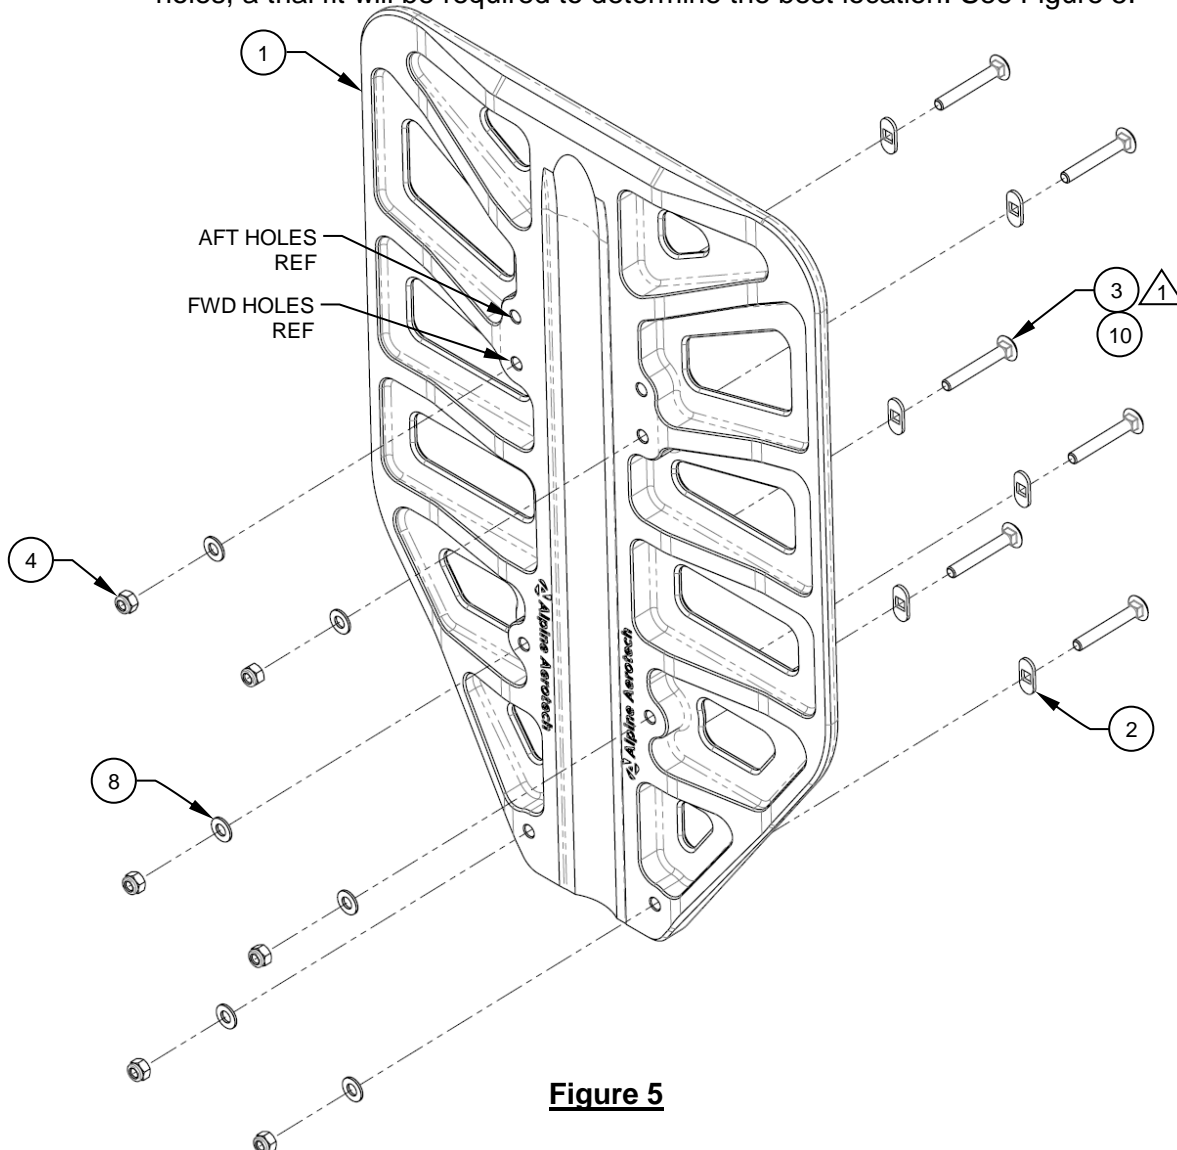

Figure 5
1. Pre-install the supplied hardware as shown. Reference Figure 5. Torque fasteners to 40 in-lbs. (plus tare torque).
NOTE: Regardless of standard, or Run-On Landing wear strips, the length of the skid shoe varies. Depending on where the skid shoe cross bolt is located, the aft set of Carriage Bolts (Items 3 or 10) will have to be located in either the AFT or FWD set of holes, a trial fit will be required to determine the best location. See Figure 5.